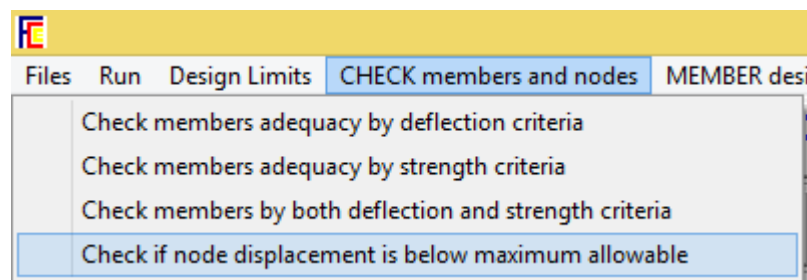

Figure 86
**Step3:** Check if node displacements are below maximum allowable (See Figure 86). If all nodes are below maximum allowable then design is complete and you can now print the design calculation. If some nodes fail then go to **Step 1**.
Q2) In the edit element properties, what is this Member Type (normal, tension or compression members) as shown in Figure 86 below?